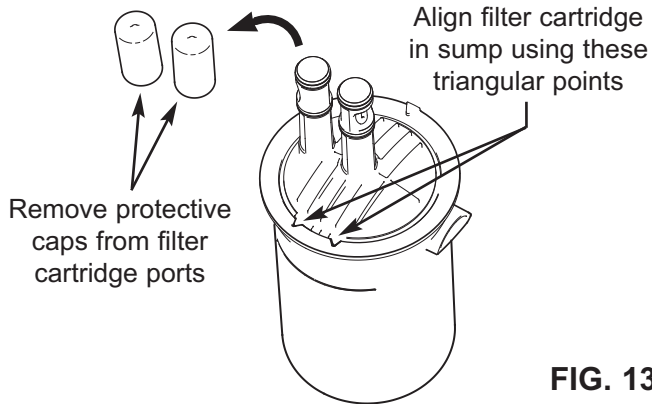

FIG. 13
7. Take the new filter cartridge out of its packaging and remove the protective caps from the ports (See Fig. 13).
8. Filter cartridges can only be installed in one orientation, and are “keyed” to assure proper fit. Insert the new filter cartridge into the sump, and turn it until the triangular points on its top edge align with, and drop into the corresponding detents in the sump (see Fig. 13).
Cause: Filter cartridge not properly oriented.	Correction: Reorient filter cartridge per Figure 13.